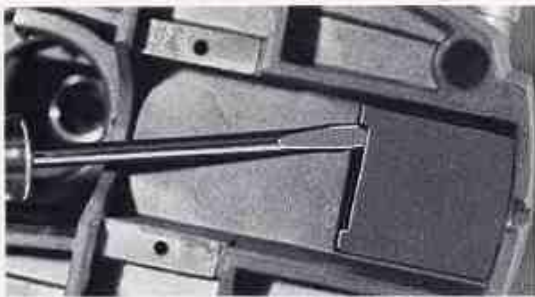

Figure 26. Removing Cover Plate
2. Remove 10-96 cover plate as shown in Fig. 26.